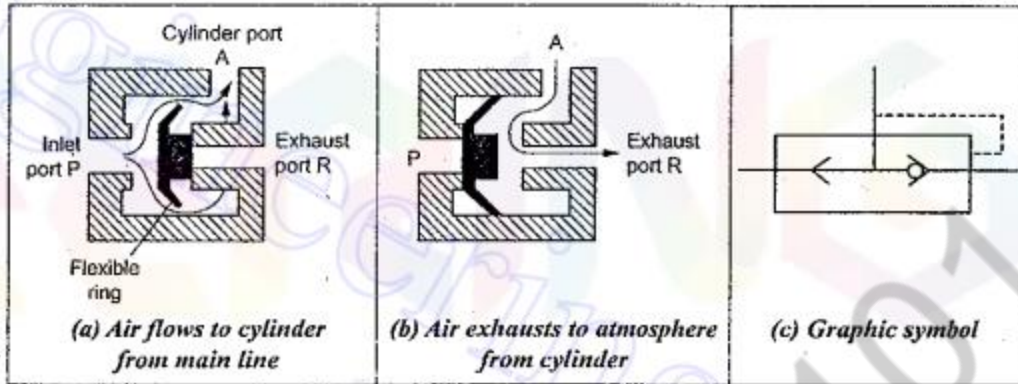

Fig. 12.6. Quick exhaust valve
The construction and operation of a typical quick exhaust valve is shown in Fig.12.6. It consists of a movable disc and three ports—an inlet port (P), and exhaust port (R), and a cylinder port (A). Its working principle is very much similar to that of a shuttle valve.
When the air flowing to the cylinder from the DC valve is applied at port P, then the flexible ring covers the exhaust port R, whereby the compressed air passes from port P to the cylinder through port A (Fig.12.6(a)).
But the return air from the cylinder pushes the flexible ring to cover the inlet port P, whereby the exhaust air immediately expelled to the atmosphere (Fig.12.6(b)). Thus the resistance to piston movement is reduced considerably and the speed of the piston in the cylinder is accelerated proportionately.